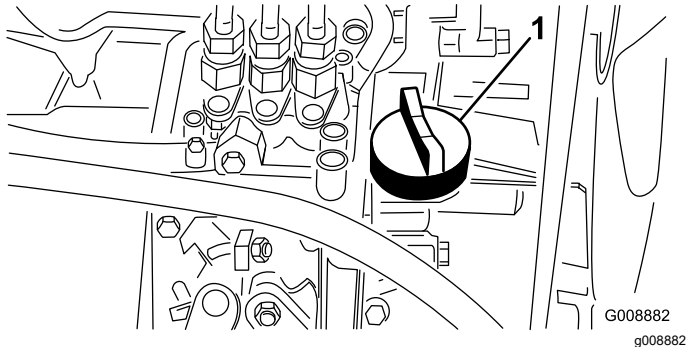

Figure 25
4. If the oil level is low, remove the oil-fill cap (Figure 25) and gradually add small quantities of oil, checking the level frequently, until the level reaches the Full mark on the dipstick.